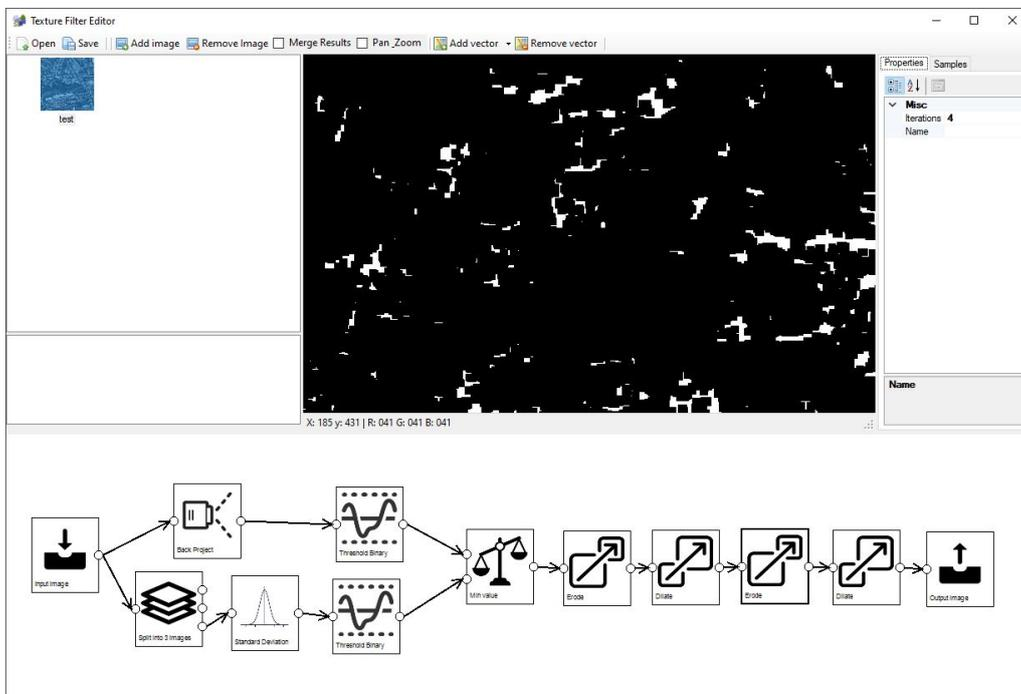

Figure 6.23: Eroding again to remove more noise
10. Erode step with 4 iterations to get rid of more small detected areas, see Figure 6.23.